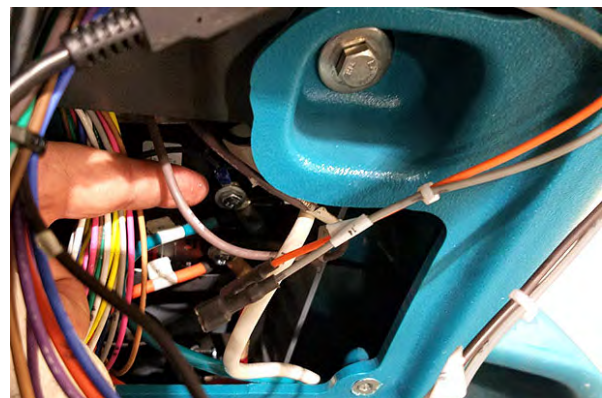

FIG. 11
19. Remove the hex nut from propel controller B- terminal. (Fig. 11)
20. Connect the blue spotlight harness (3) RT1 lead to the propel controller B- terminal and reinstall the previously removed hex nut onto the propel controller B- terminal. (Fig. 11)